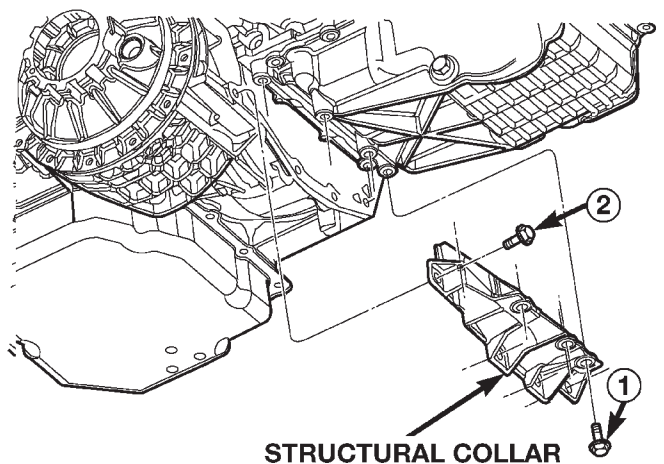

Fig. 70 Structural Collar
- (1) Remove dipstick and housing.
- (2) Raise vehicle on hoist.
- (3) Drain engine oil and remove oil filter.
- (4) Remove structural collar from oil pan to transmission housing (Fig. 70).
(5) Install structural collar (Fig. 70) using the following tightening sequence:
- e. Install the **vertical** collar to oil pan bolts (1). Torque bolts initially to 1.1 N·m (10 in. lbs.).
- f. Install collar to transmission bolts (2) and torque to 55 N·m (40 ft. lbs.).
- g. Starting with the center vertical bolts (1) and working outward, final torque bolts to 55 N·m (40 ft. lbs.).
- (6) Install oil filter and drain plug.
- (7) Lower vehicle and install oil dipstick and housing.
- (8) Fill engine crankcase with proper oil to correct level.